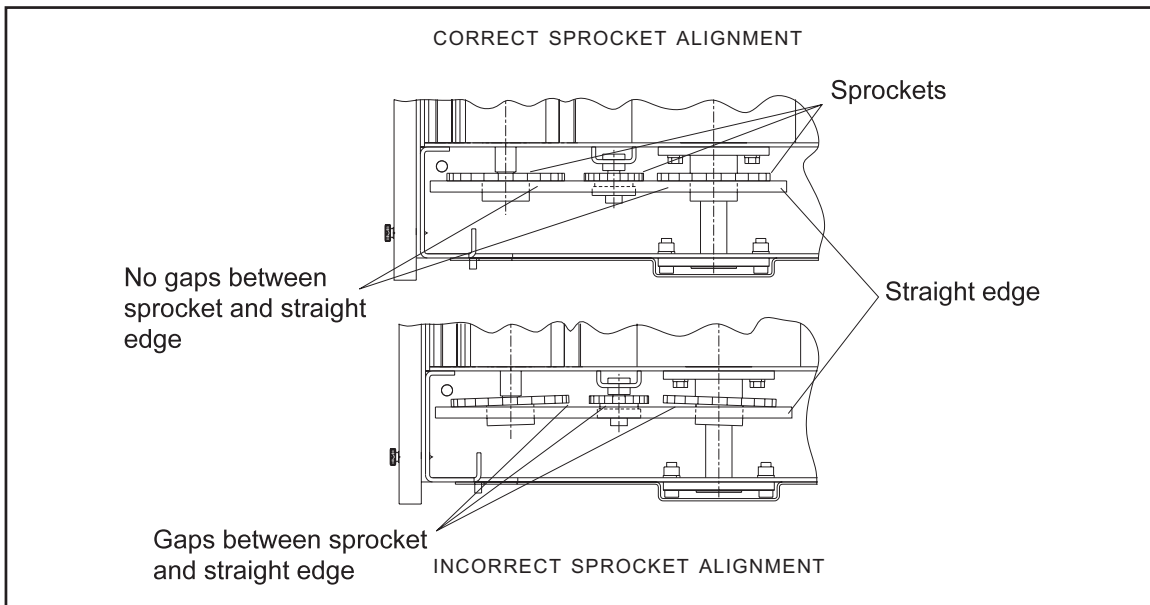

Figure 27. Checking for Proper Sprocket Alignment
6. Align sprockets using a straight edge. See Figure 27.